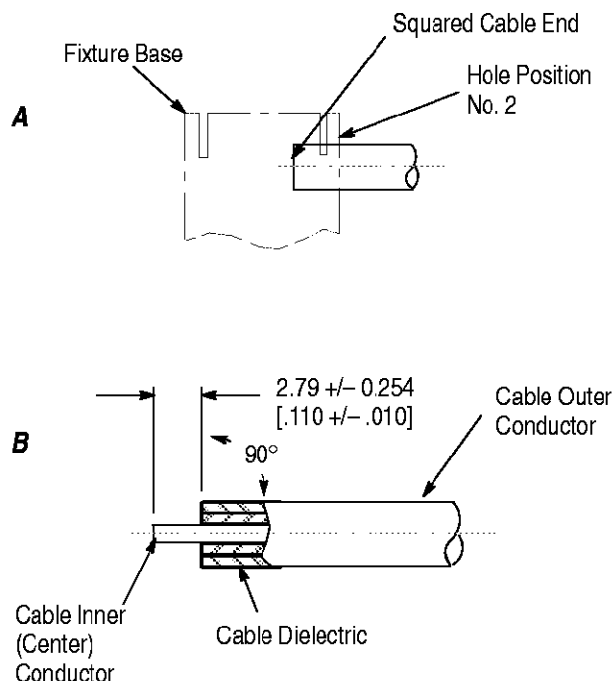

Figure 3
### 2.1. Preparing Cable (Figure 3)
1. Insert the squared cable end into the fixture base hole, as shown in Figure 3,A.
5. Trim the cable inner (center) conductor to the dimensions shown in Figure 3,B.